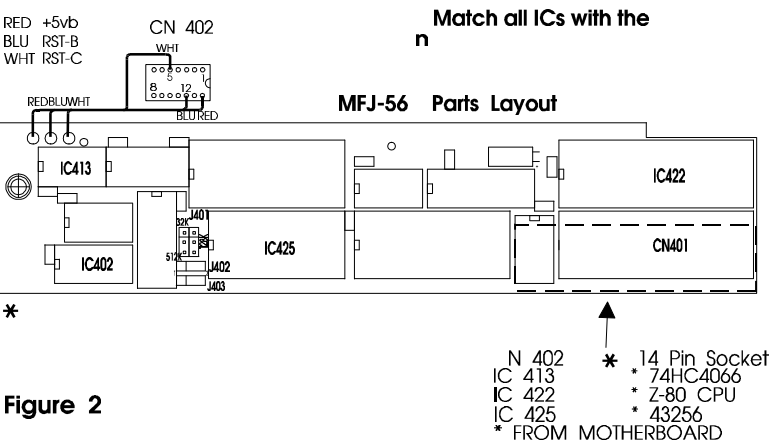

Figure 2
5. Install the ICs which were removed from your TNC in the above step. Take note as to the orientation of the IC. Match up the NOTCH on the IC to the NOTCH on the IC socket on the expansion board. Refer to Figure 2 parts layout diagram for proper installation of the ICs.
The RAM on the 32K board can be increased to 128K or to 512K. For the 128K board you can increase the RAM to 512K. This can be done simply by replacing IC424 on the memory board and relocate the jumper at J401 header. Refer to Figure 2 and the following chart. RAM chips can be ordered from MFJ Enterprises, Inc.